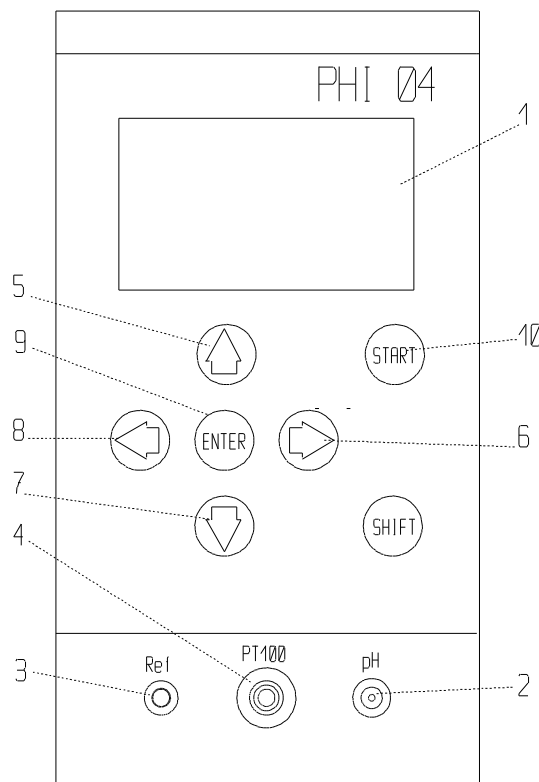

Fig. 1 Front panel of PHI 04D
Figure 1 shows the front panel of the instrument. The alphanumeric display (1) indicating the results of measurement is situated in the upper part of the front panel. The connectors for individual sensors are in the lower part. The pH or the ion-selective cells are connected through the BNC connector marked 'pH' (2). In the event a combined electrode is not used the reference electrode is connected by means of connector (3) marked 'Ref'. Connector marked 'PT100' is used to connect a platinum resistance thermometer. If connected, the instrument displays the temperature and performs automatic temperature compensation; otherwise the temperature of the measured solution must be entered manually.